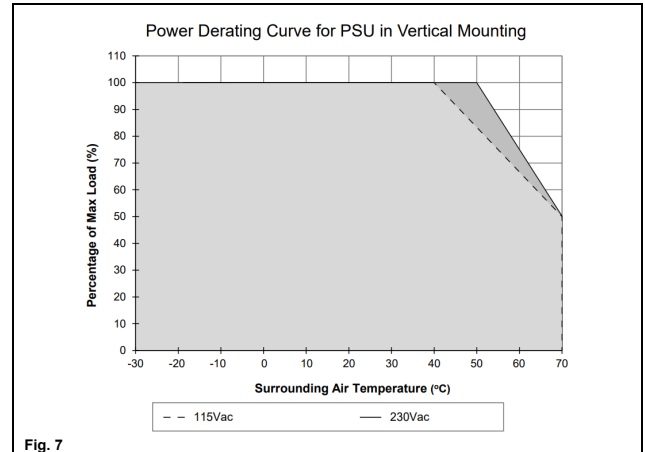

Fig. 7
5.4. Thermal behavior (Fig. 7)
If the output capacity is beyond what is recommended in Fig. 7, the device will run into thermal protection by switching off i.e. the output voltage will go into latch-off mode until the component temperature cools down and the AC power is recycled.
Operating temperature	-30 °C ... +70 °C (Refer to Fig. 7)